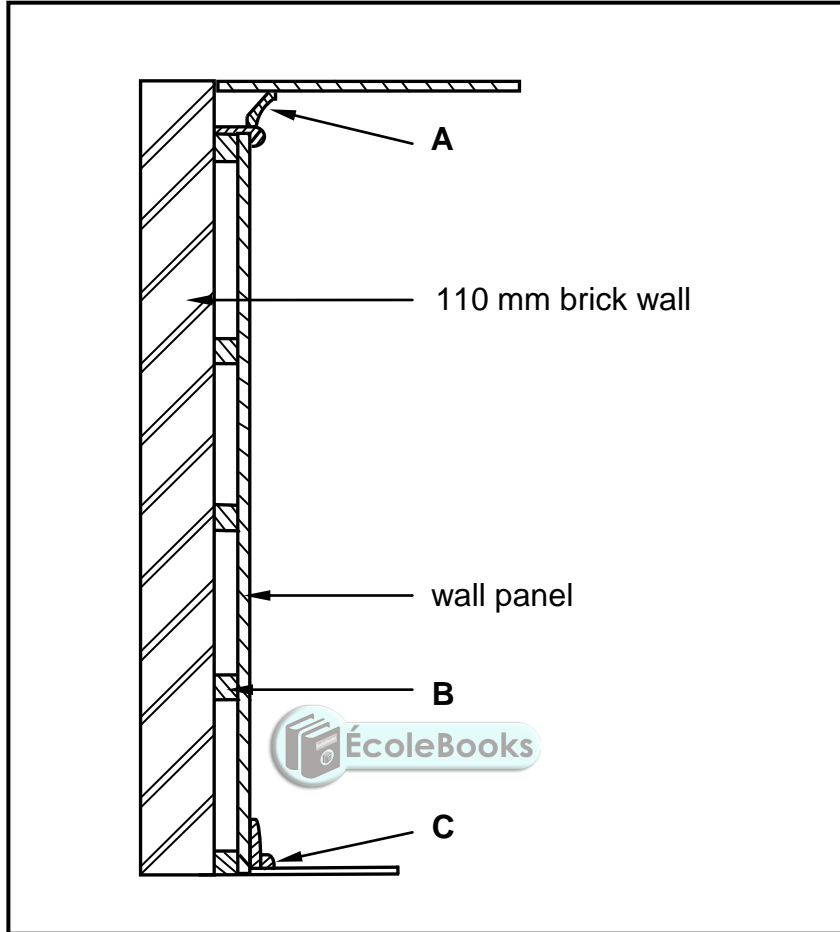

FIGURE 3.4
3.4 FIGURE 3.4 below shows the sectional view of a tongue and groove wall panel from the floor to the ceiling, fastened to a 110 mm thick wall. Study the drawing and answer the questions that follow.